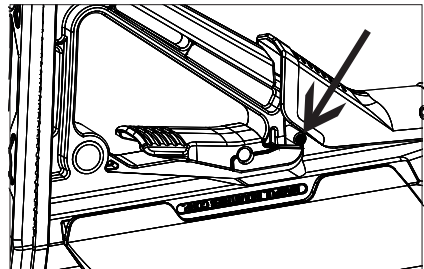

Figure 55 - CTR LOP Release Lever Crosspin
5. On the opposite end of the lever you will see the crosspin that extends out from each side of the mechanism. When you press on the release lever, the pins move upward. (Fig 55)